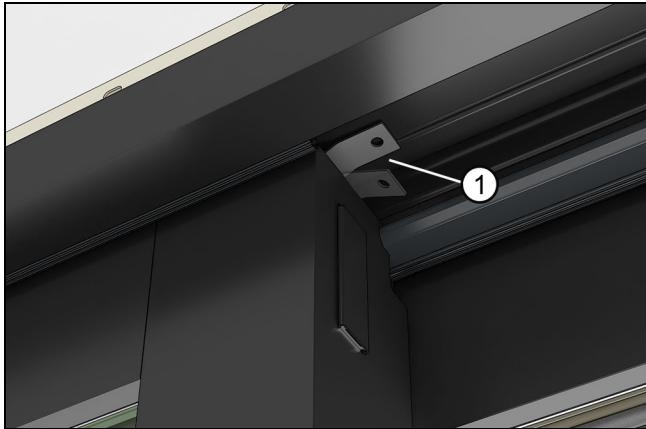

Figure 83
8. Bend the top stationary bracket up against the head jamb and pre-drill a 3/16" (5) hole through the head jamb using the bracket as a template. See Figure 83 and Figure 84.